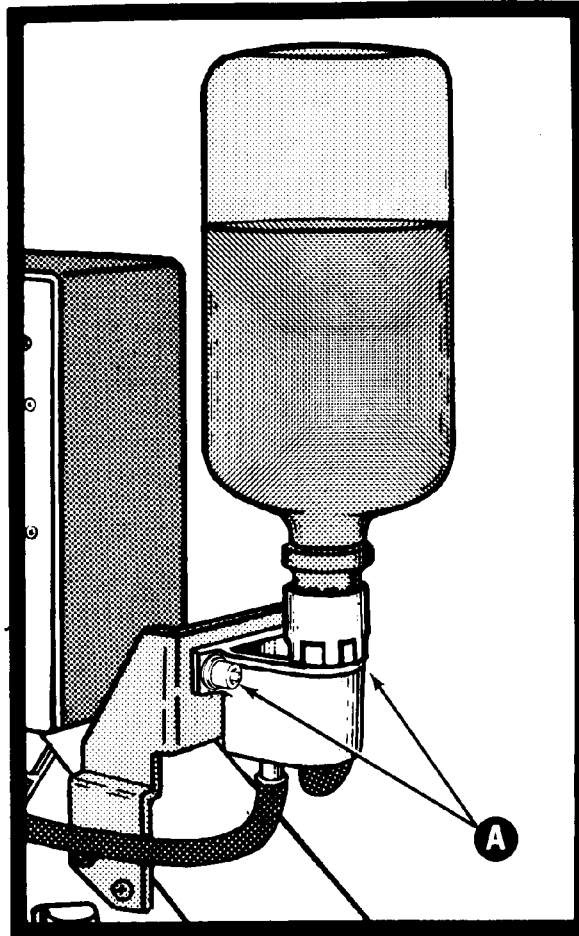

Figure 95 - Solution Bottle
1. Loosen the two screws (A) holding the solution bottle in place (see Figure 95).
3. The solution level should reach about half way up the side of the pan (see Figure 95).